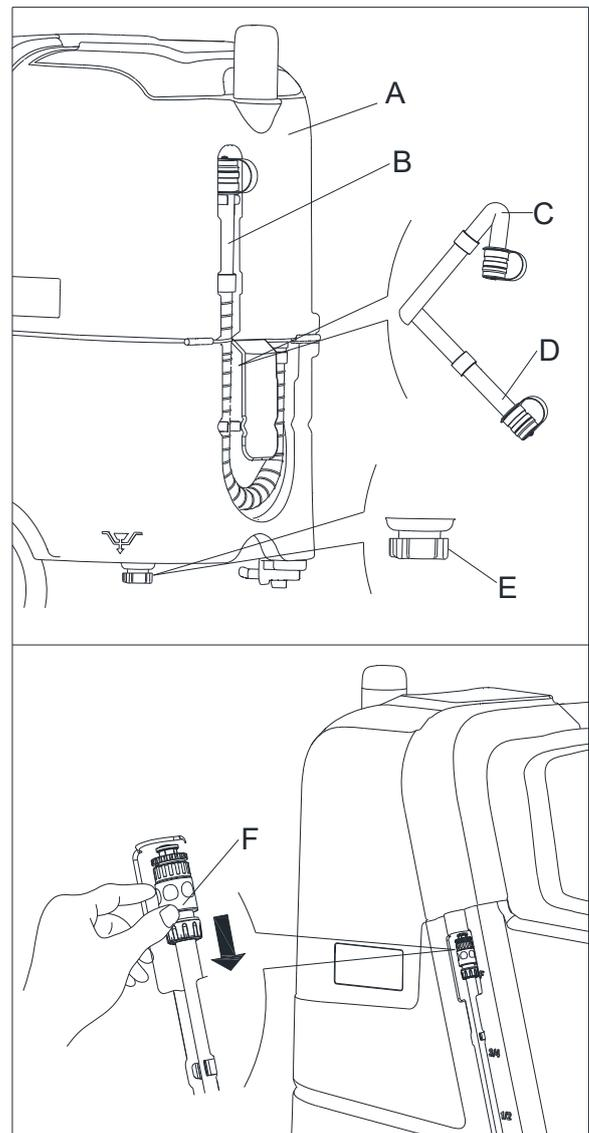

Figure 9
When the red LCD (35, Figure 2) turns on indicates the recovery tank(A, Figure9) is full, the vacuum motor stops work to dry the floor, please empty the recovery tank as flowing steps:
3. Drain the recovery tank using the drain hose (B, Figure9), then clean the recovery tank.
When draining the wastewater, the drain hose must be folded (C, Figure 9) and put to a low position (D, Figure 9) before opening the drain hose cover. Do not make the outlet of the drain hose upward to drain the water vertically in order to avoid wastewater spilling onto the operator.
2. Empty the solution tank through the outlet cover (E, Figure 9). And then, rinse the tank with clean water.
The water can also be drained by unplugging the drain connection (F, Figure 9).